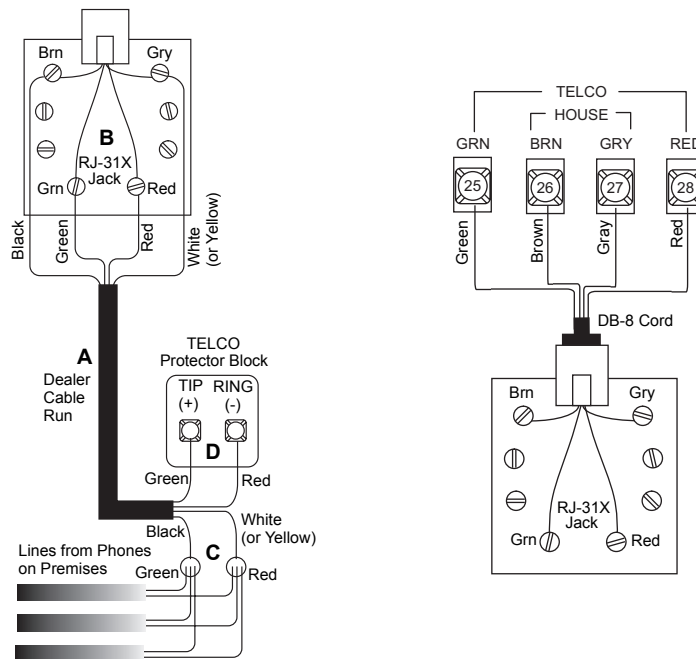

Figure 26. Wiring an RJ-31X Jack and DB-8 Cord to the Panel
1. Run a 4-conductor cable from the TELCO protector block to the jack location (see A in Figure 26).
2. Connect one end of the cable to the jack (see B in Figure 26).
3. At the TELCO protector block, remove the premises phone lines from the block and splice them to the black and white (or yellow) wires of the 4-conductor cable (see C in Figure 26).
4. Connect the green and red wires from the 4-conductor cable to the TIP (+) and RING (-) posts on the block (see D in Figure 26).
➤ **To connect the DB-8 cord to the panel terminals and RJ-31X jack (see Figure 26):**